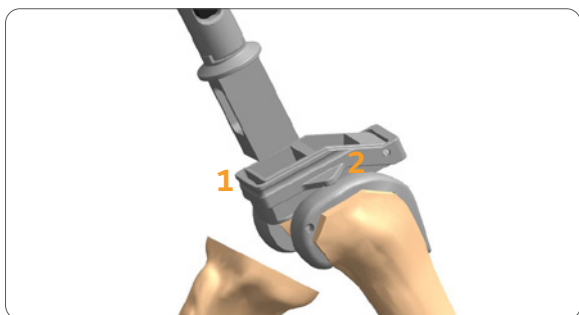

Figure 44
3. Connect the Modular Box Chisel to the Modular Impact Handle. Insert the Chisel into the posterior portion of the BCS Box Prep Guide and impact until flush. Repeat punching on anterior portion (**Figure 44**). Use underside of strike plate to remove.